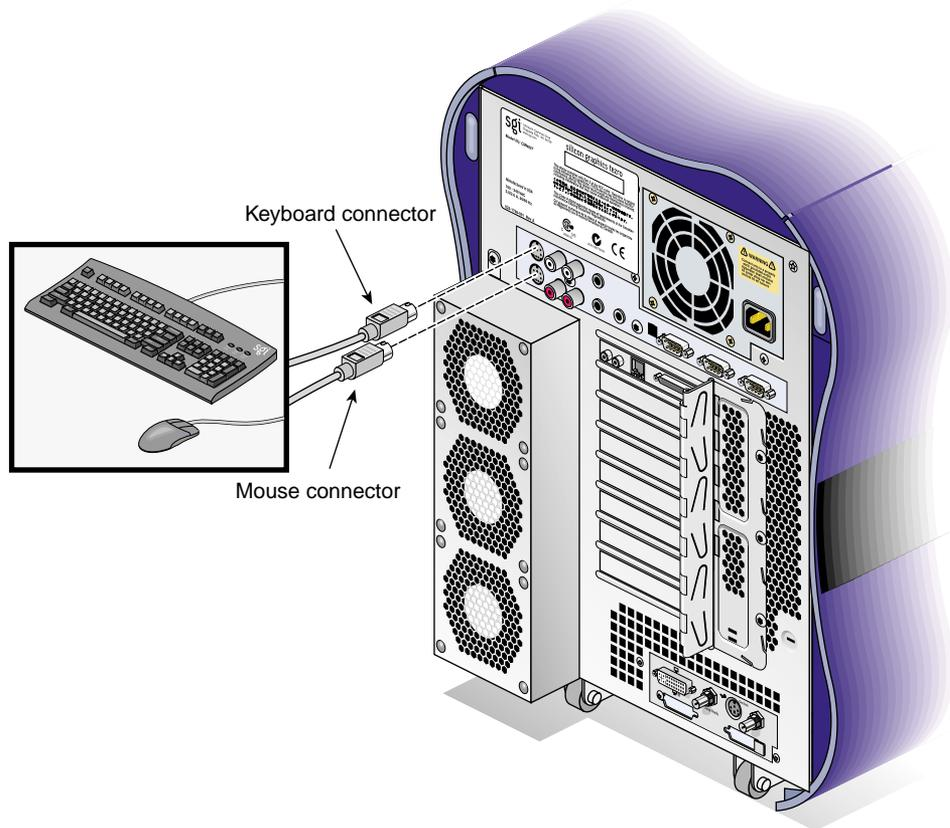

Figure 1-5 Connecting the Keyboard and Mouse Cables
1. Connect the keyboard and mouse cables, as shown in Figure 1-5.